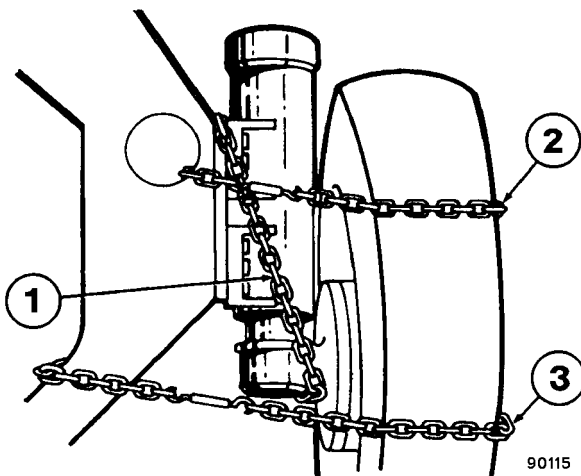

FIGURE 3-10. WHEEL SUPPORT CHAIN INSTALLATION
NOTE: The placement of binder chains (2 & 3, Figure 3-10) is necessary anytime that the retainer plate (8, Figure 3-3) is removed in the following procedure. These binders must be tight enough to prevent the wheel hub from moving out and dislocating the floating seal assembly (16). An additional chain (1, Figure 3-10) may be installed to prevent full extension of the suspension cylinder when the truck is raised off the ground.
4. Wrap a chain and chain binder (2, Figure 3-10) around the top half of the tire. Secure chain through the frame. Chain should be tightened enough to prevent movement during bearing adjustment procedure when the retainer plate is removed.
5. Install another chain (3) around the bottom half of the tire and tighten enough to prevent movement during bearing adjustment procedure.
7. Remove capscrews (5), retainer plate (8), and shims (7).
9. Remove tire retaining chains (2 & 3, Figure 3-10).